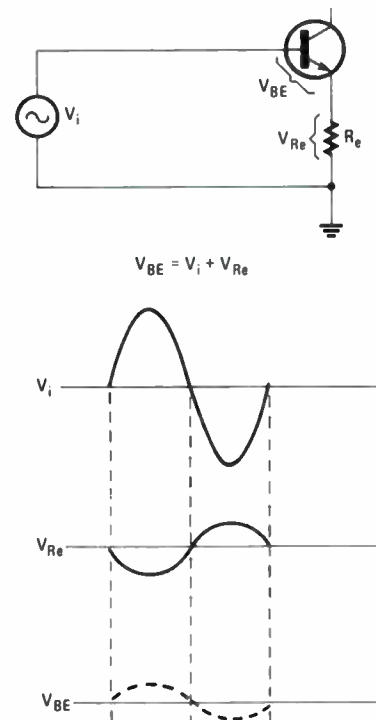

Fig. 5—Negative feedback is developed across R_e . The R1/R2 voltage divider is omitted to emphasize AC operation.
17. (b. 180° out of phase) As the transistor emitter-collector current varies with the input voltage, a small AC voltage (V_{R_e}) is developed across the emitter resistor. The AC voltage is in phase with the input voltage. V_{R_e} adds in series with the input voltage (V_i) to form the voltage across the emitter-base (E-B) junction, as shown in Fig. 5. The input and emitter voltages oppose one